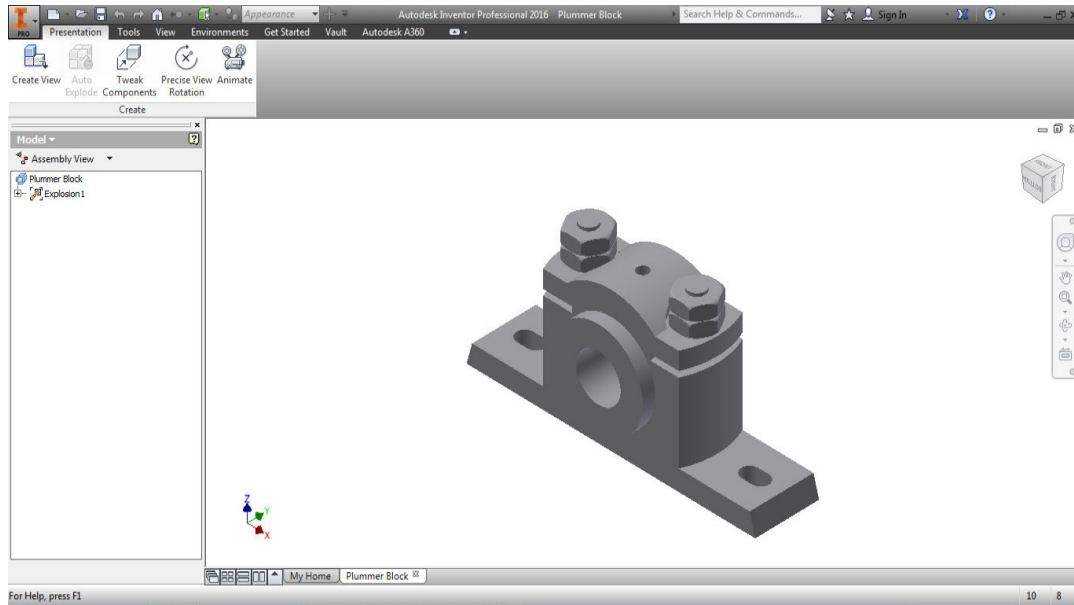

Figure 13-15 Presentation file after creating the presentation view
- Open a new metric presentation file and create a new presentation view by using the **Create View** tool, refer to Figure 13-15.
The presentation view is created and the current view is changed automatically to the isometric view. The file after creating the presentation view is shown in Figure 13-15.
If the presentation view is not the same as shown in Figure 13-15 then you can change the orientation of view using the ViewCube.